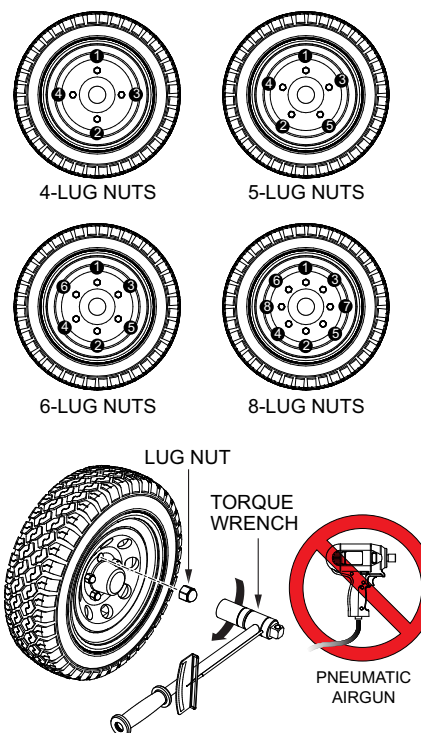

Figure 50. Wheel Lug Nuts Tightening Sequence
2. Torque (tighten) all lug nuts in sequence (Figure 50). **DO NOT** torque the wheel lug nuts all the way down. Torque each lug nut in **3 separate passes** as defined in Table 12.